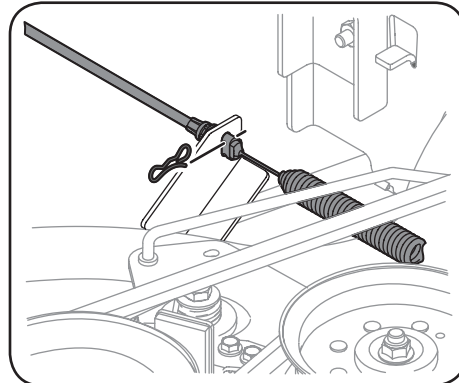

Figure 4-11
9. Carefully remove the PTO cable from the rear of the cutting deck by removing the bow-tie clip which secures it. Remove the spring from the deck idler bracket. See Figure 4-11.